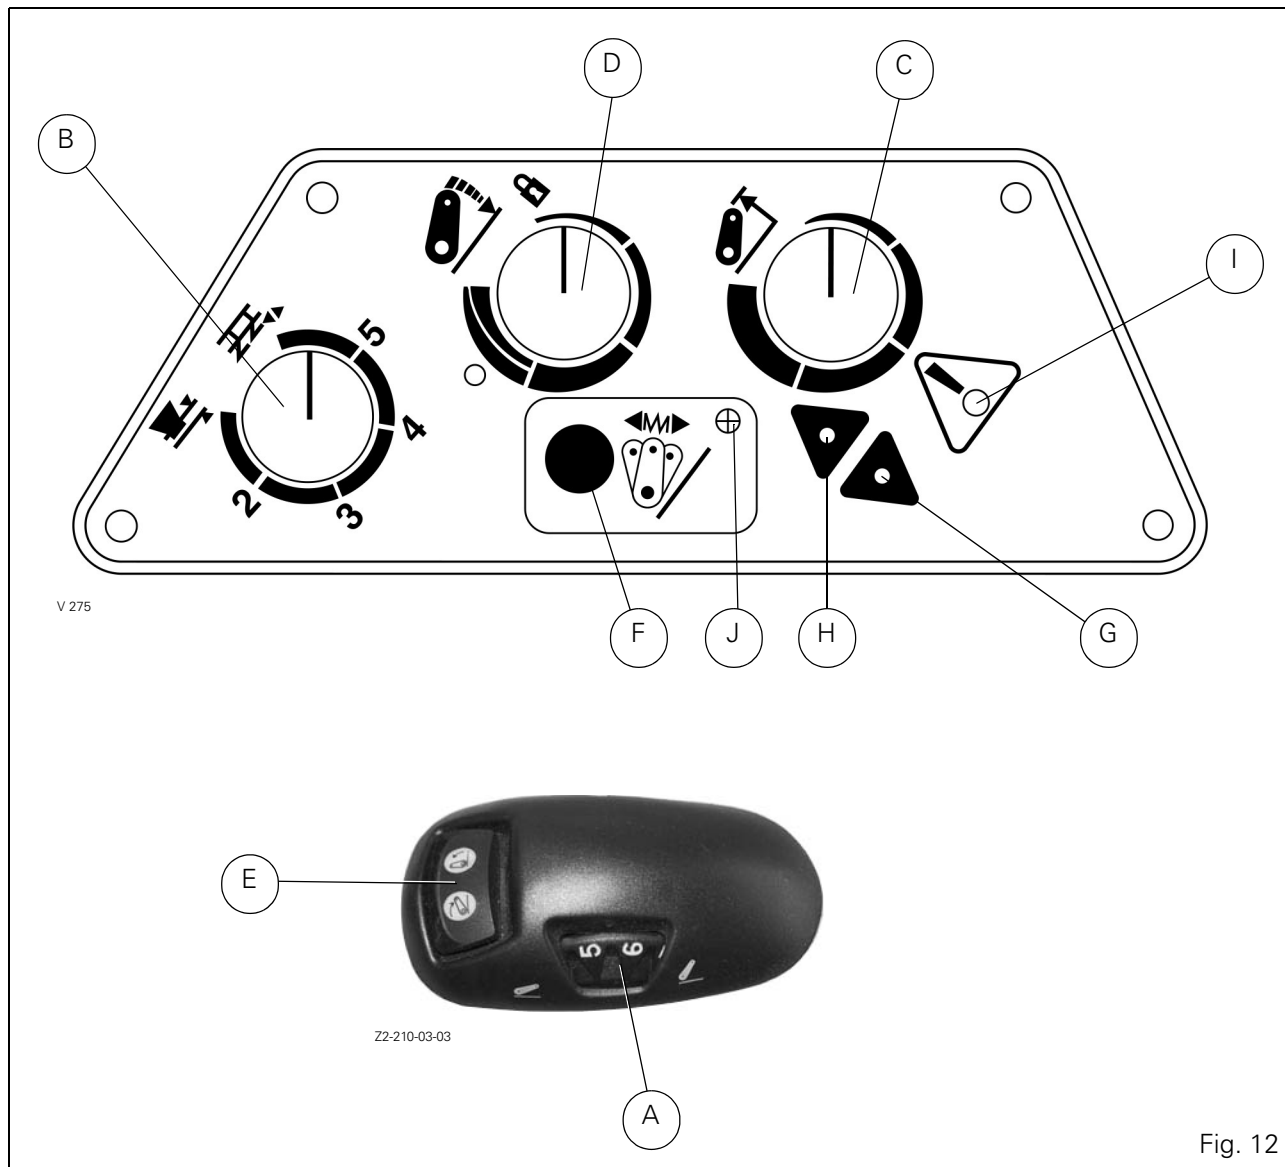

Fig. 12
(Fig. 12)
- Move the function selector knob (B Fig. 12) clockwise to the lowest control position.